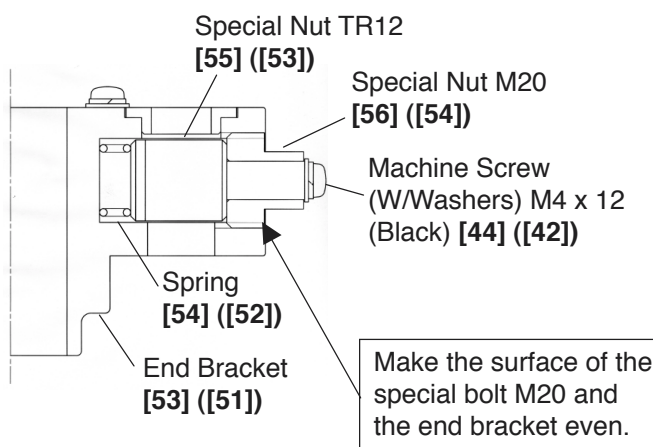
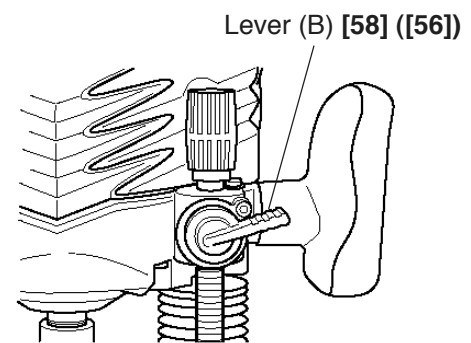

Fig. 16
Fig. 17
(1) Reassembly of the Special Nut TR12 [55] ([53]) (Fig. 16 and Fig. 17)
- (c) Attach Lever (B) [58] ([56]) with the position as Fig. 17. And secure it with the Hex. Socket Set Screw M6 x 6 [59] ([57]).